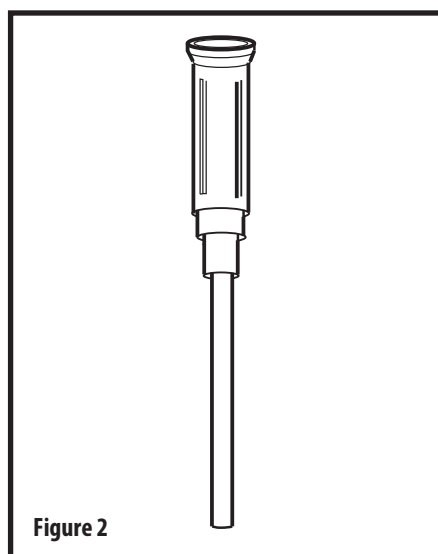

Figure 2
7. Insert the introducer cannula (**Fig 2**) into the Jejunal port until the hub is in contact with the Jejunal feeding port and the introducer cannula is clearly visible inside the tube. The introducer cannula opens the one-way valve and protects it from damage by the guidewire.